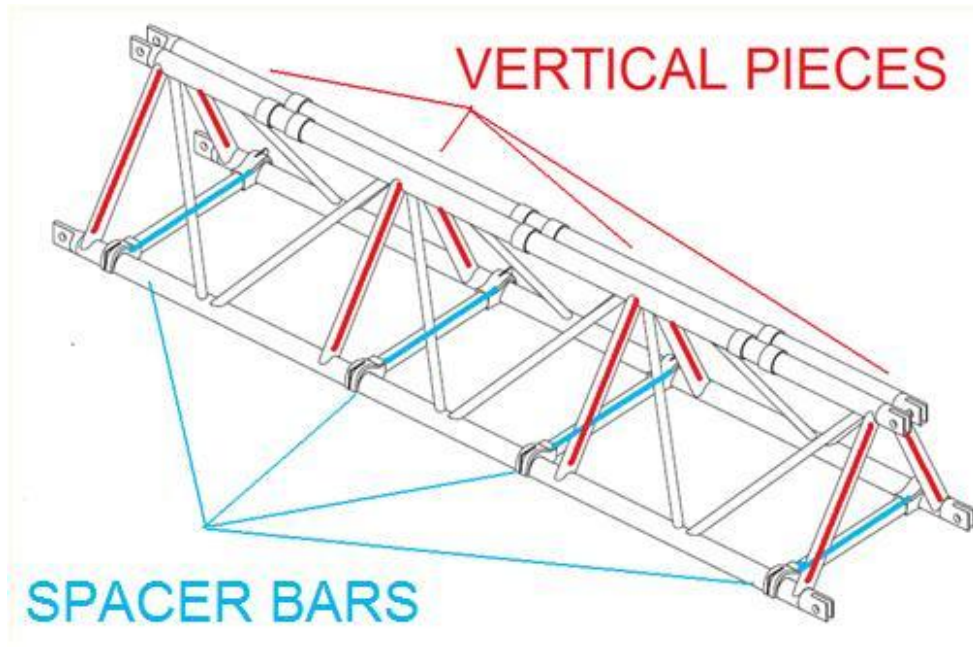

Figure 5: Spacer bar placement
4. Next you can use the spacer bars (which are stored with the truss) to hold the triangle truss open. Four(4) spacer bars should be used on each piece of truss – one at each end, and the other two evenly spaced in the middle and placed next to vertical pieces, as shown in Figure 5. Spacer bars are to be pushed into place by hand, and if they are not locking in place, use a rubber mallet to push them into place more firmly. (Avoid using metal objects, such as hammers or crowbars, as this will cause stress on the pins.) See the troubleshooting section if you continue to have problems. Check each spacer bar to make sure it is securely locked into place before proceeding to hang the truss. Note that equipment cannot be hung from the spacer bars.